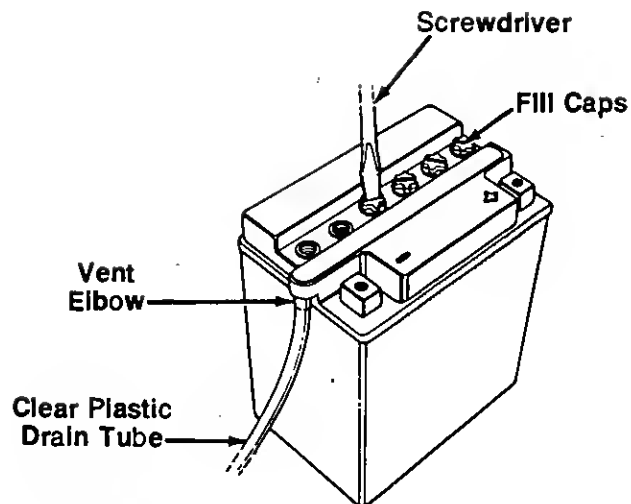

FIGURE 8.
3. Remove the six fill caps from the top of the battery with a screwdriver. Be careful not to damage the fill caps. See figure 8.